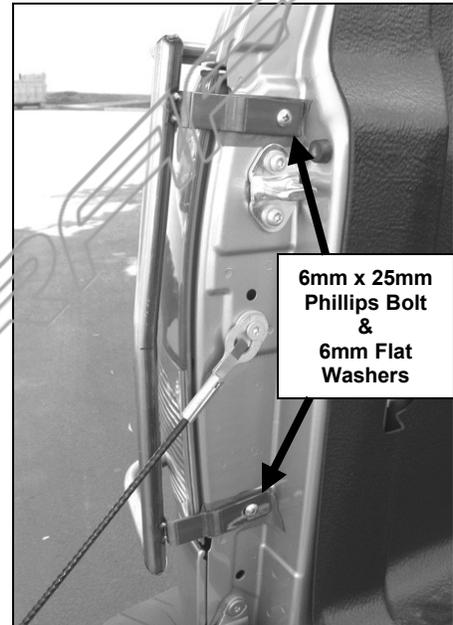

Figure 2
- Carefully position Taillight Guard onto vehicle. Use the included (2) 6-1.00 x 25mm Phillips Bolts and (2) 6mm Flat Washers to mount Taillight Guard to vehicle (Figure 2). Do not tighten at this time. **NOTE:** If Mounting Brackets don't fit properly, they can be adjusted to fit properly using a pair of pliers.